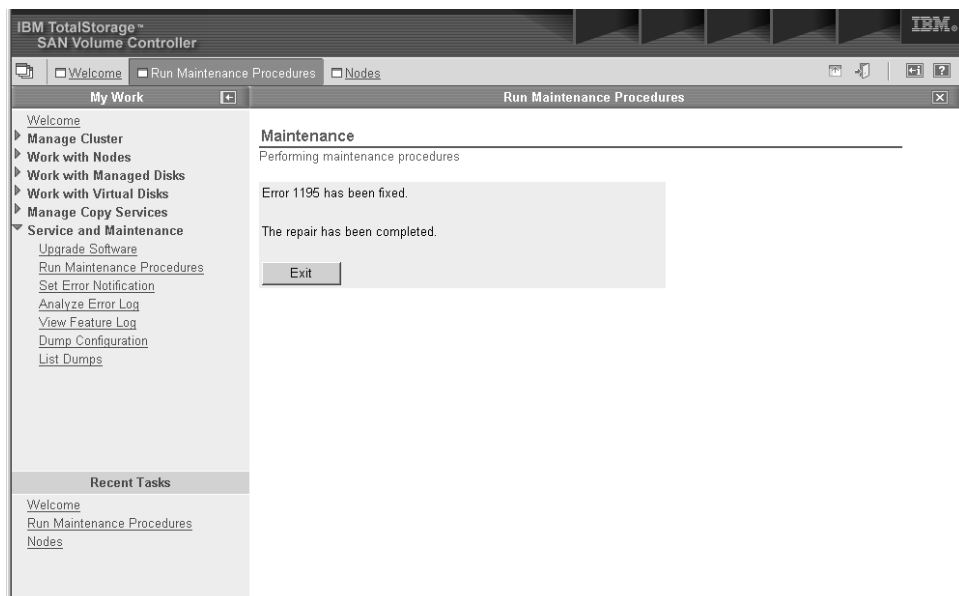

Figure 40. Example of what is displayed when the repair is completed
6. Click OK to mark the error as fixed in the error log to prevent this instance of the error from being listed again. This action displays message similar to that shown in Figure 40 indicating that the repair has been completed.